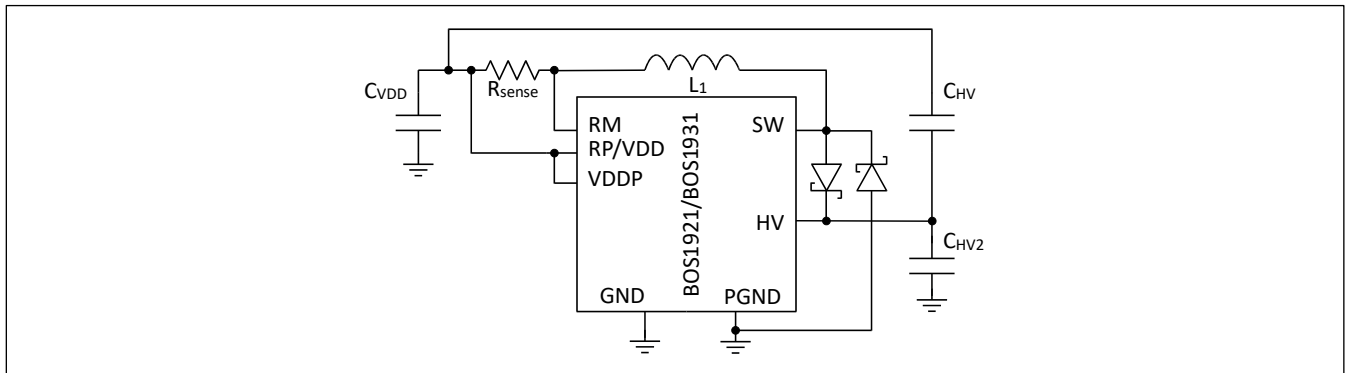

Figure 39: Simplified schematic with a Schottky diode between SW/HV and SW/PGND pins for noise reduction
- a. Between the HV and SW pins, as shown in Figure 39.
- b. Between the SW and PGND pins, as shown in Figure 39.